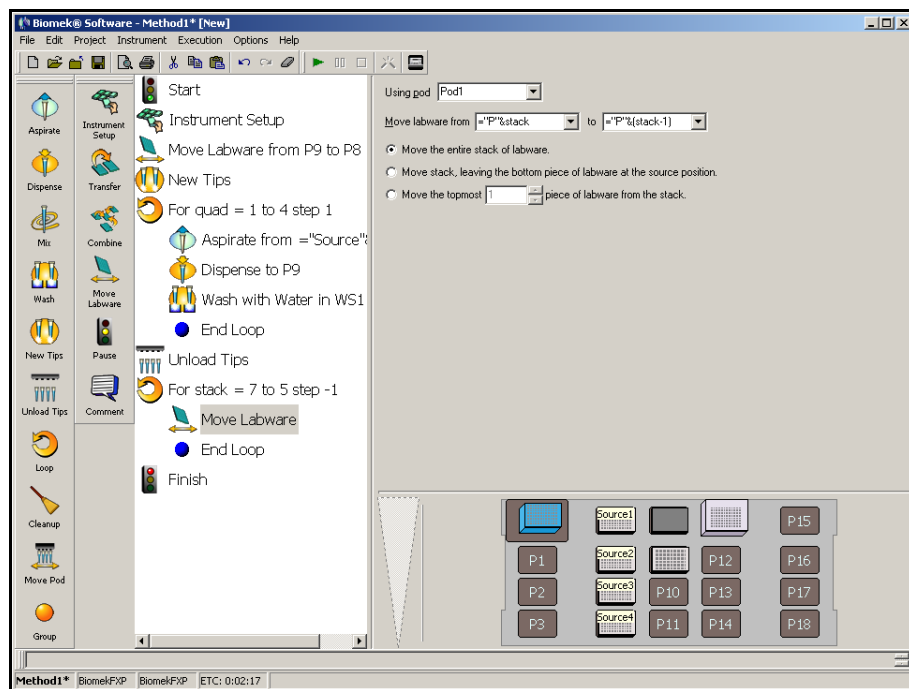

Figure 3-19. Use variables to stack plates
5. In to, type **=“P”&(stack-1)**. Select the first option, **Move the entire stack of labware**. Your Move Labware configuration should look like Figure 3-19.